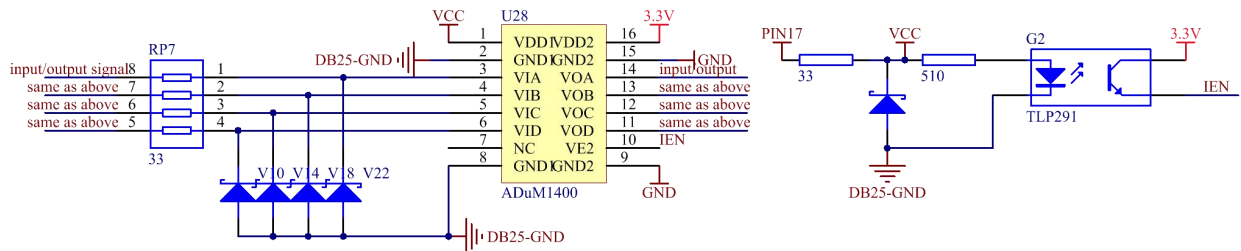

Figure 6 Schematic of input and output signals
- f) I/O connection of digital signal: the supply current of input signals are less than 10 mA, and the supply current of output signals are less than 3 mA. The connection circuit of input/output signals is shown in Fig. 6.